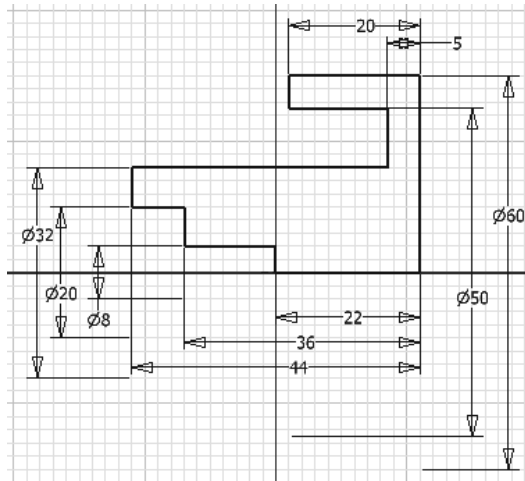

Figure 3-51 Fully constrained sketch for Tutorial 2
- Apply **Coincident Constraint** between the fixed sketch point and the lower left vertex of the sketch to make it a fully constrained sketch, refer to Figure 3-51.
18. Choose the **Zoom All** tool from the **Navigation Bar > Zoom** flyout to fit the sketch into the drawing window. The fully constrained sketch after adding all dimensions is shown in Figure 3-51.